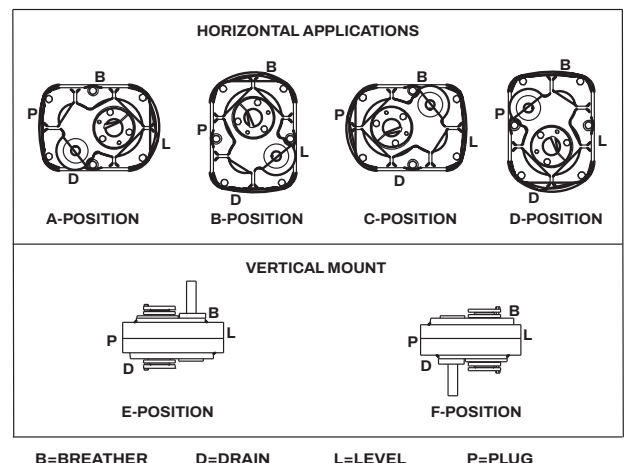

Figure 1 - Mounting Positions
2. Determine the mounting position of the reducer (Figure 1). Note that the reducer is supplied with either 4 or 7 plugs; 4 around the sides for horizontal installations and 1 on each face for vertical installations. These plugs must be arranged relative to the mounting positions as follows:
The running position of the reducer in a horizontal application is not limited to the four positions shown in Figure 1. However, if running position is over 20° either way in position “B” and “D”, or 5° either way in position “A” or “C,” the oil level plug cannot be safely used to check the oil level, unless during the checking the torque arm is disconnected and the reducer is swung to within 20° for position “B” or “D” or 5° for position “A” or “C” of the positions shown in Figure 1. Because of the many possible positions of the reducer, it may be necessary or desirable to make special adaptations using the lubrication fitting holes furnished along with other standard pipe fittings, stand pipes and oil level gauges as required.
① Oil quantity is approximate. Service with lubricant until oil runs out of oil level hole.
② Refer to Figure 1 for mounting positions.
③ US measure: 1 quart = 32 fluid ounces = .94646 liters.
④ Below 15 RPM output speed, oil level must be adjusted to reach the highest oil level plug (P). If reducer position is to vary from those shown in Figure 1, either more or less oil may be required. Consult Dodge Industrial Inc., Dodge Engineering, Greenville, SC.